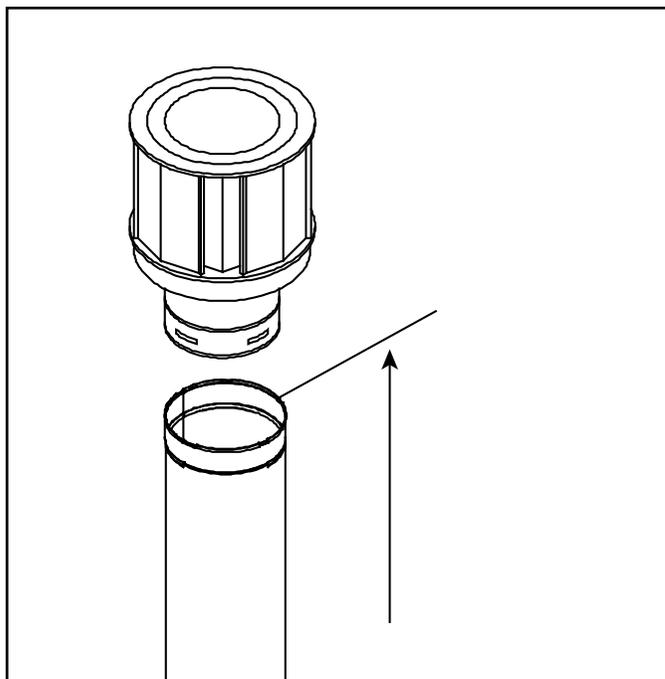

Figure 4.13 Measure to Top of Last Section of Pipe
- Vertical terminations are measured to top of last section of pipe. See Figure 4.13.